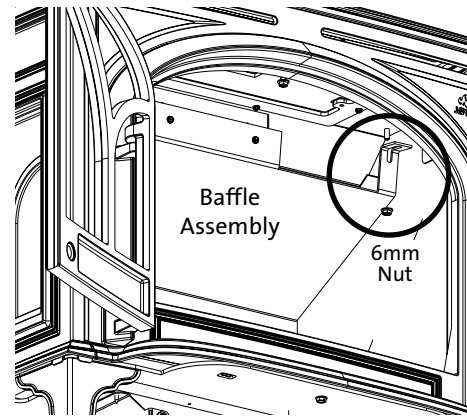

Figure 6.7.
- 6.7. **Baffle Conversion - Propane only:** Remove two, 6 mm nuts to detach the baffle assembly from the firebox. See figs. 6.7 - 6.8.